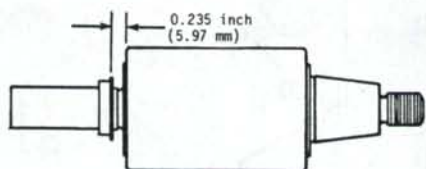
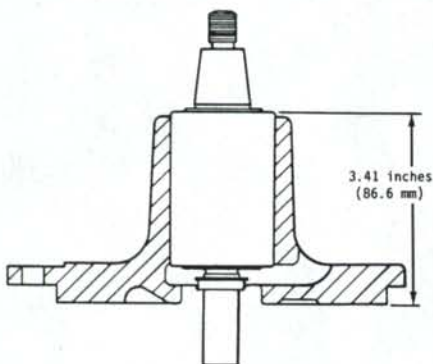
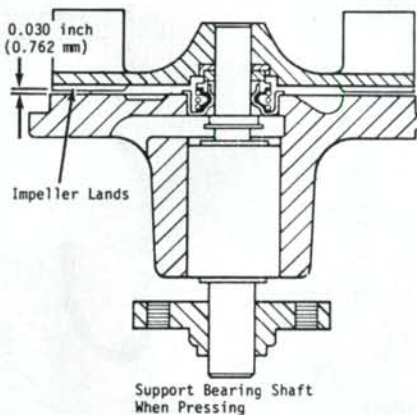

Fig. 81—When installing slinger, install to dimension shown.
Fig. 82—When installing shaft and bearing assembly, install to dimension shown.
Fig. 83—Impeller is installed with 0.030 inch (0.762 mm) clearance between impeller and housing.
Reassemble water pump as follows: If installing a new slinger (16), install it on pump shaft to the dimension shown in Fig. 81 and note that shoulder of slinger is toward bearing. Press shaft and bearing assembly (17—Fig. 80) into housing (15) to the dimension shown in Fig. 82, then install Woodruff key, and pulley hub (6—Fig. 80) onto shaft. Install washer and tighten locknut to 45-50 ft.-lbs. (61-68 N·m) torque. Install new seal (14) into housing and press only on outer metal ring of seal. Install new seat (13) in impeller (12), then press impeller onto shaft until distance between impeller and housing is 0.030 inch (0.762 mm) as shown in Fig. 83.